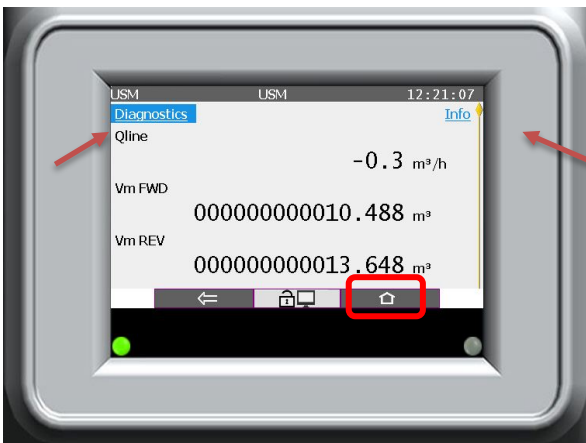

Figure 7-3: Start display/USM
The start display is shown below in Figure 7-3 and displays the following values:
Along the top of the start display page you will see the sub-menus **Diagnostics** and **Info** marked with red arrows in Figure 7-3. You must scroll to the top of the page to view or select these sub-menus. For more information on Diagnostics, as well as the two submenus from this screen, please refer to ⇨ section 7.5 Diagnostics and 7.6 Info – Analog Outputs ..., respectively. The button with the house icon is the **Home** button.
Pressing the **Home** button from the **Start display** (as seen in Figure 7-3) will bring you to a screen as depicted below in Figure 7-4.
- ▶ From the **Start display** screen, scroll to the top of the page and highlight the **Diagnostics** field in the top left-hand corner, see Figure 7-3